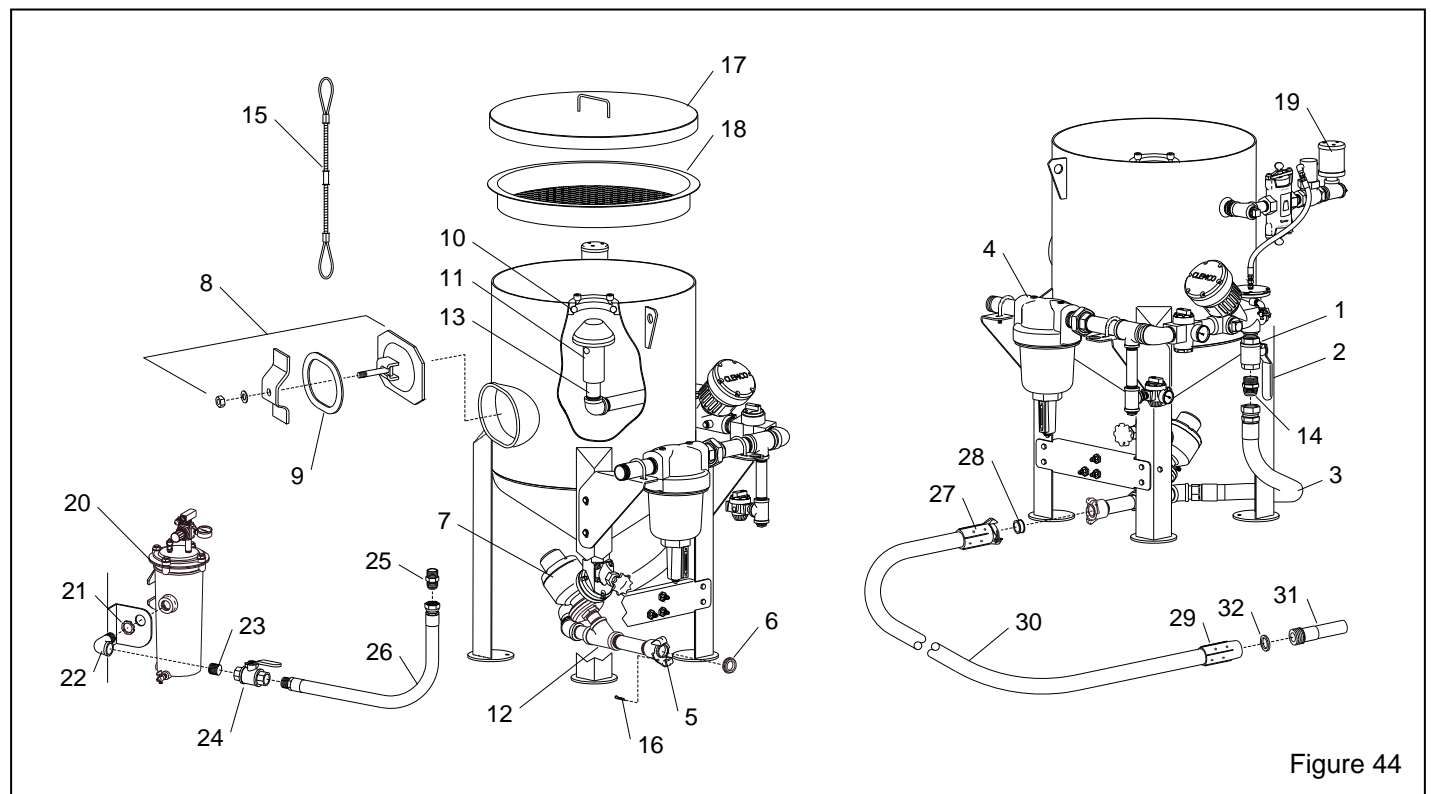

Figure 44
9.1 Blast Machine and Accessories, Figure 44